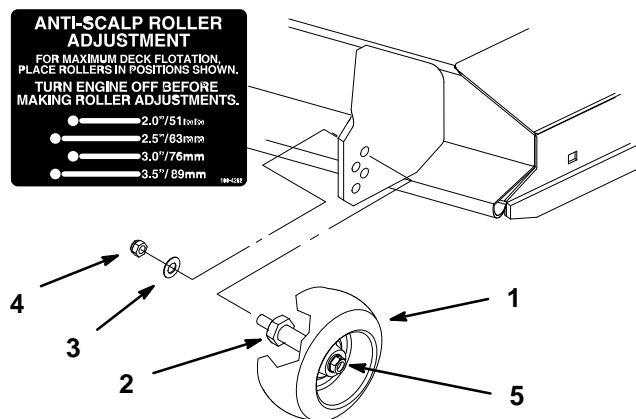

Figure 12
2. After adjusting height-of-cut remove flange nut and spring disk while holding stud with wrench (Fig. 12).
Note: Do not remove the wheel nut and washer (Fig. 12).
3. Select hole so gage wheel is positioned to the nearest corresponding height-of-cut desired (Fig. 12).
4. Reinstall the flange nut and spring disk (Fig. 12).